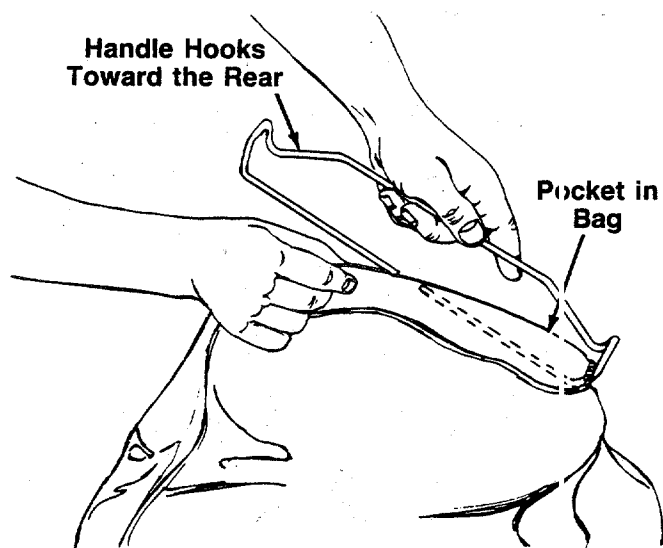

FIGURE 10.
3. Attach the rear handle to bag by inserting one side of handle into pocket on the rear of the bag. The handle should hook toward the rear of the bag as shown in figure 10. Thread all the material onto one side, then slide it over onto the other side. See figure 10.